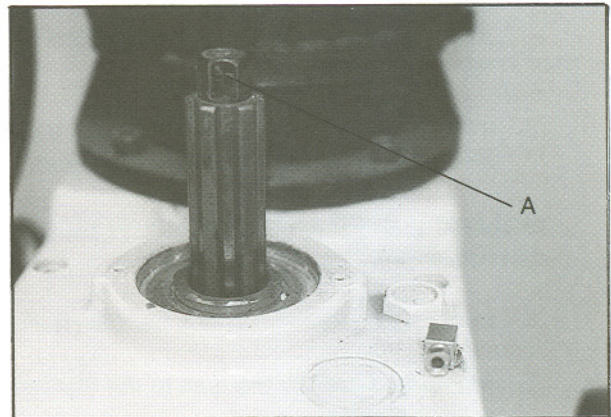

Fig. 10
4. Use an adjustable wrench or box wrench to loosen the draw bar (A, Fig. 10).